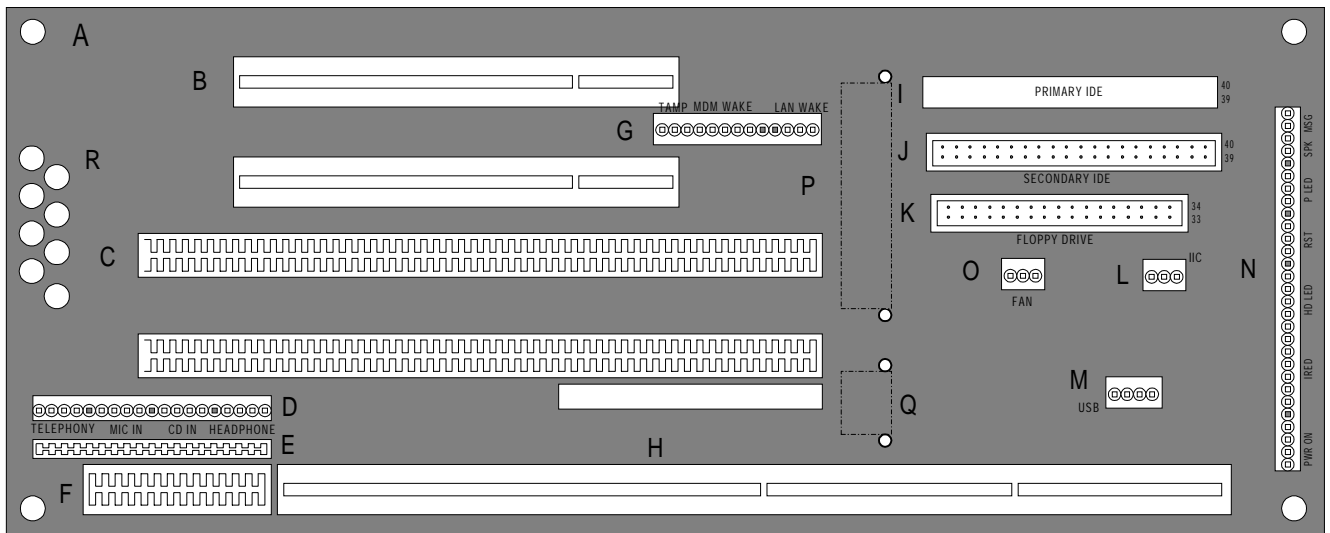

Figure 1: Generic Riser Layout
Figure 1 shows the riser card layout. The card must accommodate the features and requirements described in the following sections. These sections describe the card with reference to the callouts in Figure 1.
In Figure 1, the holes referenced at callout “R” are used for airflow/cooling considerations, because this riser card covers part of the airflow produced by the NLX power supply in the chassis. The designer must take into consideration any thermal issues that might arise because of improper cooling of the system.
2.1 Mounting Holes (A in Figure 1)
2.2 PCI Connector Slots (B in Figure 1)
2.3 ISA Connector Slots (C in Figure 1)
2.4 Audio Connector Header (D in Figure 1)
Audio Connector (D in Figure 1) (continued) Headphone
2.5 Hybrid Audio Connector (E in Figure 1)
2.6 Optional 2x13 Analog Audio (F in Figure 1)
2.7 Feature Connector Header (J11 and J12) (G in Figure 1)